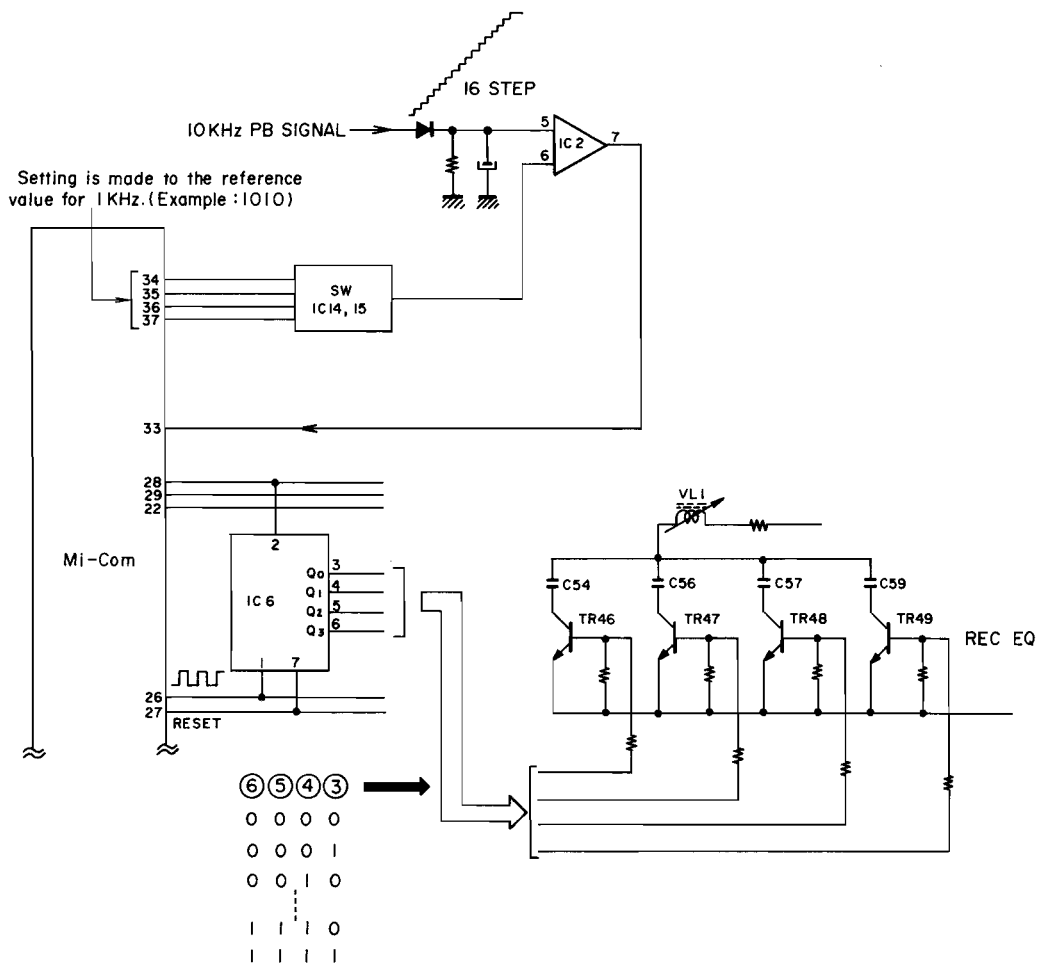

Fig. 37
As shown in Fig. 37, a 1 kHz playback signal is supplied to the A/D converter circuit, at which time terminal ⑥ of IC2 is supplied with voltages in 16 steps by the use of 4-bit signals from terminals ③④ - ③⑦ of the microcomputer. The 4-bit signal appearing at terminals ③④ through ③⑦ when the step level has become equal to the 1 kHz playback level
Since the C and VL1 are in the Rec amp's NFB circuit made up of TRs 32 through 36, the amount of NFB is changed by the frequency. (See Fig. 37.)